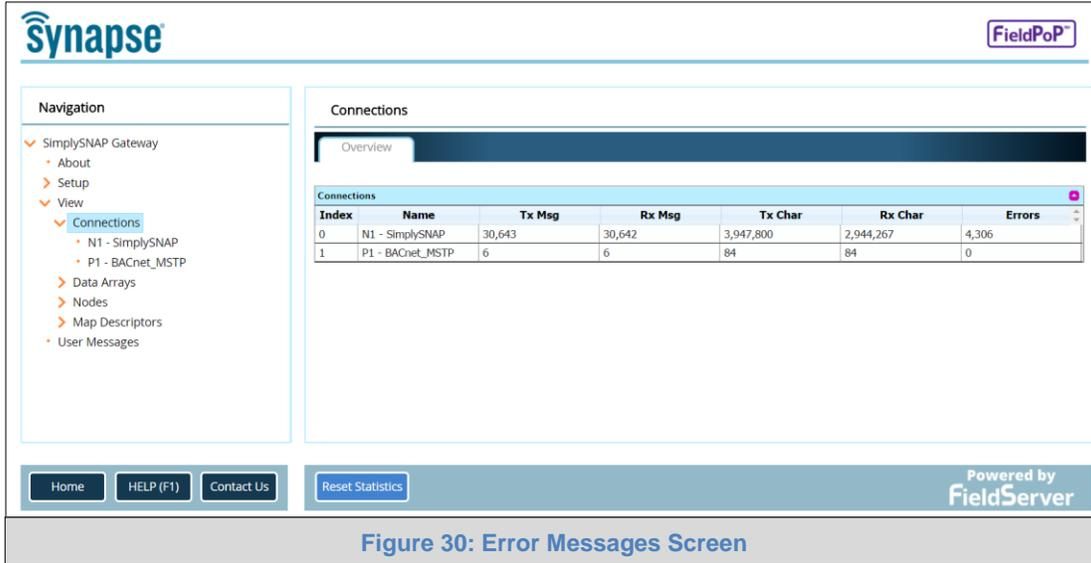

Figure 30: Error Messages Screen
**NOTE:** The FieldPoP™ button  (see Figure 30) allows users to connect to FieldPoP, Sierra Monitor’s device cloud solution for the IIoT. FieldPoP enables secure remote connection to field devices through a FieldServer and its local applications for configuration, management, maintenance. For more information about FieldPoP, refer to the FieldPoP™ Device Cloud Start-up Guide.